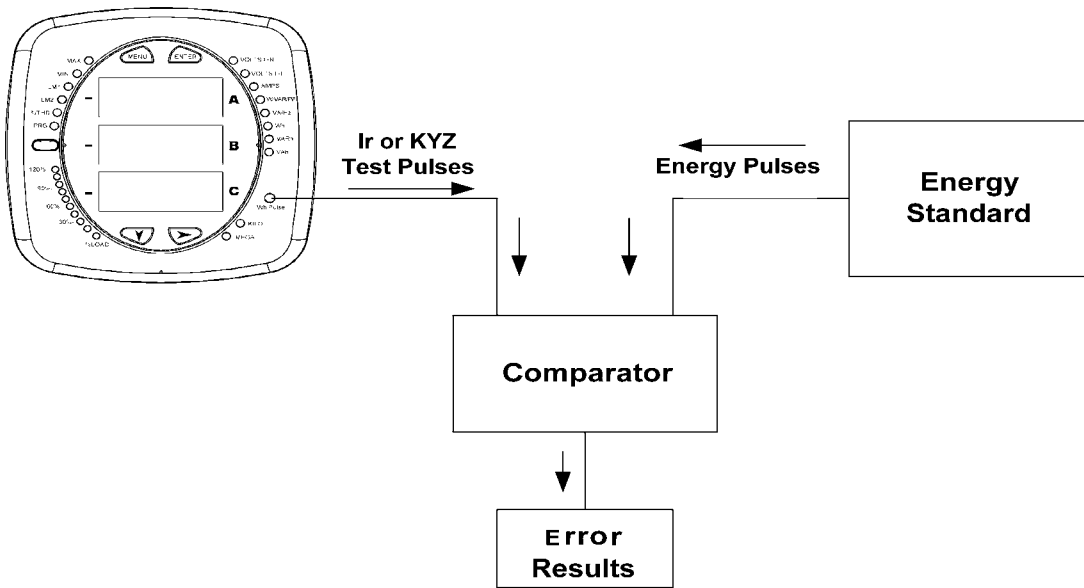

Figure 6.5: Using the Watt-Hour Test Pulse
- Refer to Figure 6.5 for an example of how this process works.